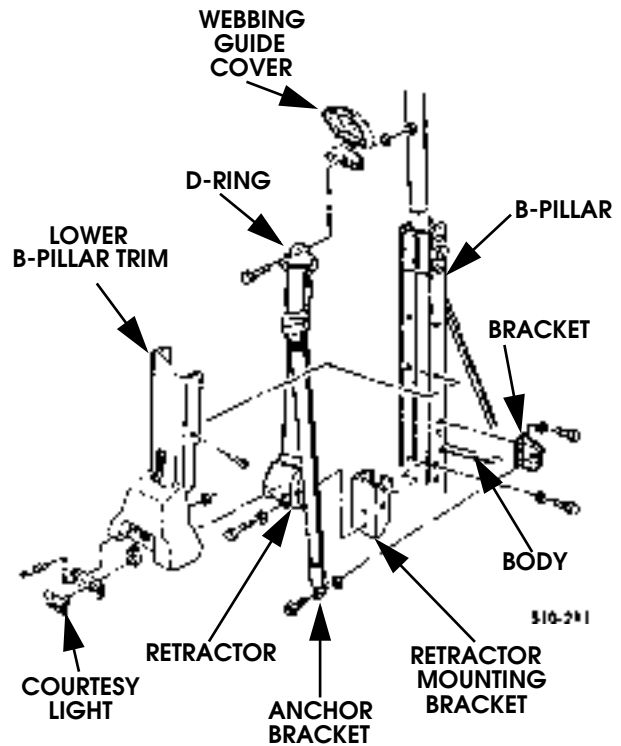

Figure 10-31: Seat Belt Assembly Breakdown
5. Remove screw/washer assembly, D-ring, webbing guide cover, and washer from B-pillar (Figure 10-31).
7. Remove courtesy light lamp assembly, rivets, mounting bracket, and washers from lower B-pillar trim (Figure 10-31).
1. Secure bracket to B-pillar and body with washers and bolts (Figure 10-31). Tighten bolts to 12 lb-ft (16 N•m).